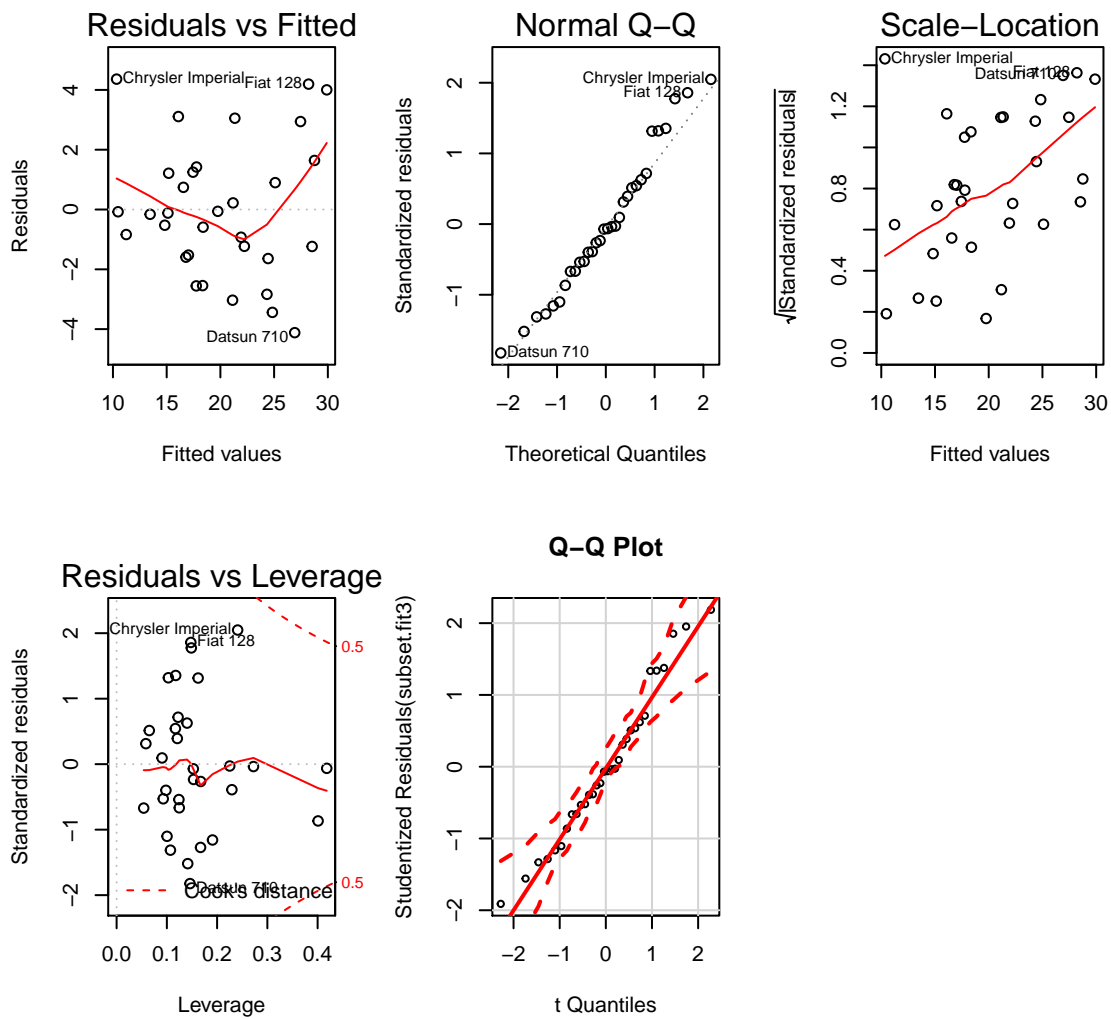

Figure 3: Diagnostic plot of our final model
My winner is model *subset.fit3* even if it hasn't the lowest AIC but the three subset models are close to each other. Because of the page limit i cannot plot more than one diagnostic plots to show my decision but i found the diagnostics better for that model. The dignostic plot goes to **Figure 3**.
- *Normality*: The Q-Q-Plot in the lower right (and also in the upper middle but without confidence envelop) in **Figure 3** contains a 95% confidence envelope and shows that most of the points are close to the line within this envelop. There are some outliers we should examine but this is left to the reader. I suggest that normality is given.